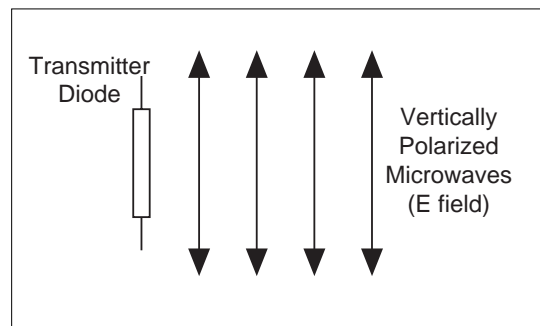
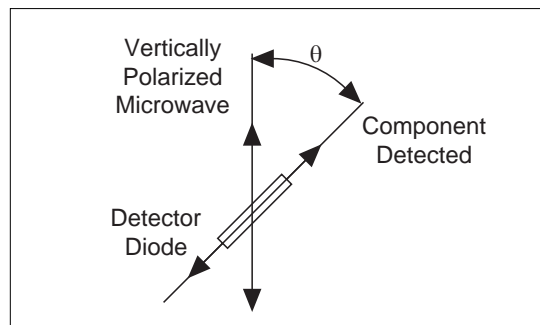

Figure 5.1 Vertical Polarization
Figure 5.2 Detecting Polarized Radiation
The microwave radiation from the Transmitter is **linearly polarized** along the Transmitter diode axis (i.e., as the radiation propagates through space, its electric field remains aligned with the axis of the diode). If the Transmitter diode were aligned vertically, the electric field of the transmitted wave would be vertically polarized, as shown in Figure 5.1. If the detector diode were at an angle θ to the Transmitter diode, as shown in Figure 5.2, it would only detect the component of the incident electric field that was aligned along its axis. In this experiment you will investigate the phenomenon of polarization and discover how a polarizer can be used to alter the polarization of microwave radiation.
- ① If the Receiver meter reading (**M**) were directly proportional to the electric field component (**E**) along its axis, the meter would read the relationship $M = M_0 \cos\theta$ (where θ is the angle between the detector and Transmitter diodes and M_0 is the meter reading when $\theta = 0$). (See Figure 5.2). Graph your data from step 2 of the experiment. On the same graph, plot the relationship $M_0 \cos\theta$. Compare the two graphs.
- ② The intensity of a linearly polarized electromagnetic wave is directly proportional to the square of the electric field (e.g., $I = kE^2$). If the Receiver's meter reading was directly proportional to the incident microwave's intensity, the meter would read the relationship $M = M_0 \cos^2\theta$. Plot this relationship on your graph from question 1. Based on your graphs, discuss the relationship between the meter reading of the Receiver and the polarization and magnitude of the incident microwave.
- ③ Based on your data from step 5, how does the Polarizer affect the incident microwave?
- ④ Can you explain the results of step 6 of the experiment. How can the insertion of an additional polarizer increase the signal level at the detector? (**HINT:** Construct a diagram like that shown in Figure 5.2 showing (1) the wave from the Transmitter; (2) the wave after it passes through the Polarizer; and (3) the component detected at the detector diode.)